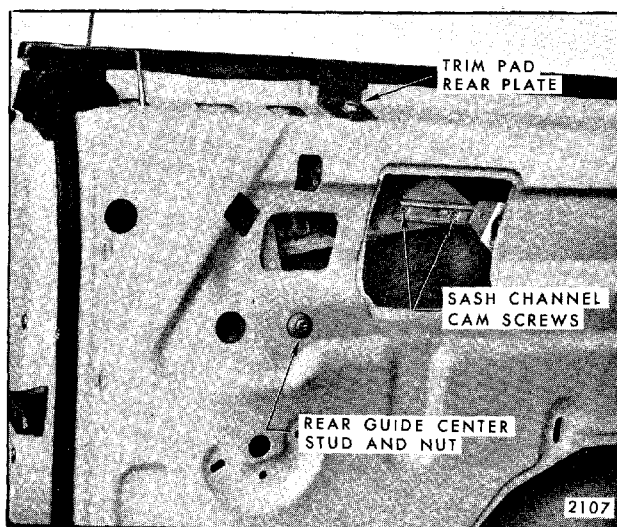
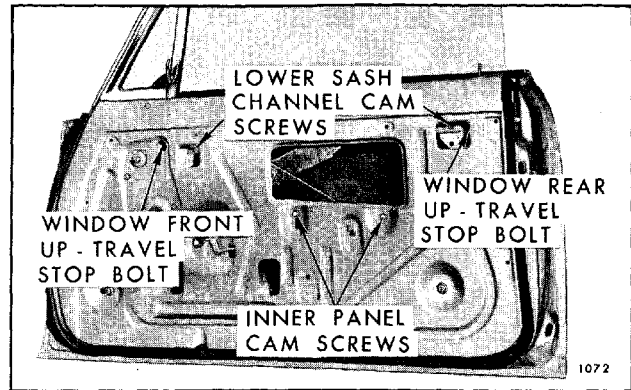

Fig. 7-79—Door Window Attachment
Fig. 7-80—Front Door Hardware - "Z" Styles
2. Position window to expose cam attaching screws. On either style, glass will be approximately 3" from full-up position (see Fig. 7-79 for "E" Bodies and Fig. 7-80 for "Z" Bodies).
3. On "Z" Body Styles, remove one front and one rear cam to sash channel attaching screws. On "E" Body Styles, remove two attaching screws at rear (see Fig. 7-79), lower door window and remove two attaching screws at front.